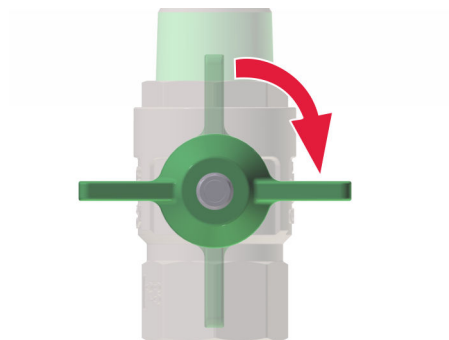

Fig. 24: Close the main shut off valves
1. ➔ Close all main shut off valves (Fig. 24) on the fresh hot water station.